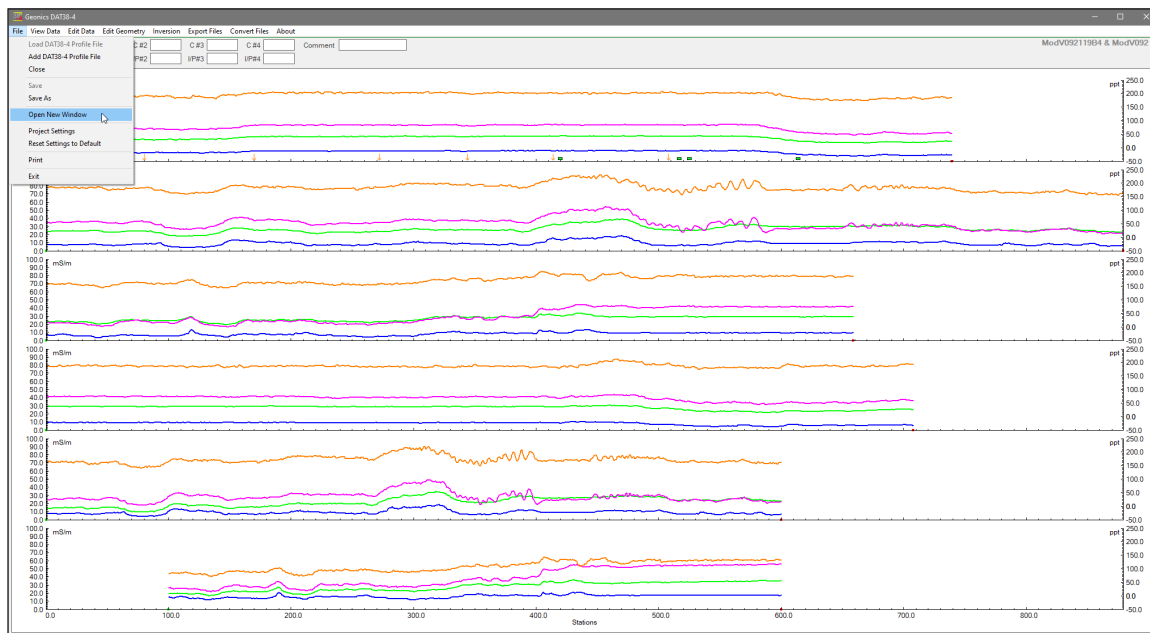
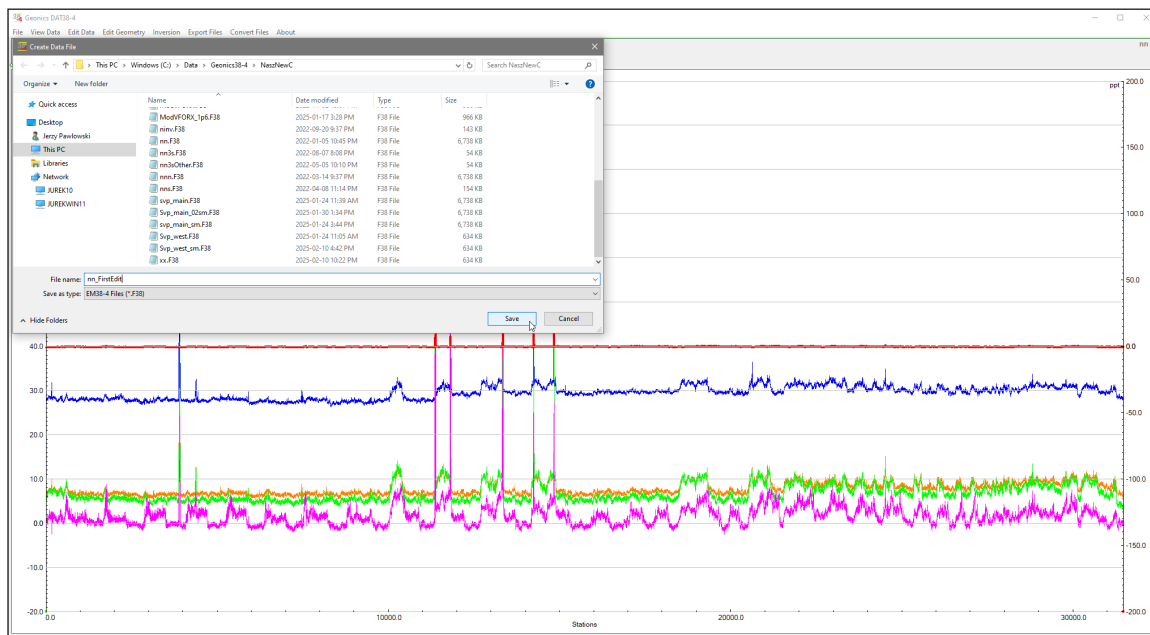

Figure 3.6 DAT38-4 File menu, Open New Window
Figure 3.10 DAT38-4 Save As dialog
- To open another data set (even the same file) in a new window, choose **File | Open New Window** (Figure 3.6).
- **Save As:** It is recommended to use **Save As** (Figure 3.6) to preserve the original file. In the Save As dialog (Figure 3.10), choose a directory, enter a file name, and click **Save** (double-click or press Alt+S). Files saved this way use the F38 extension.